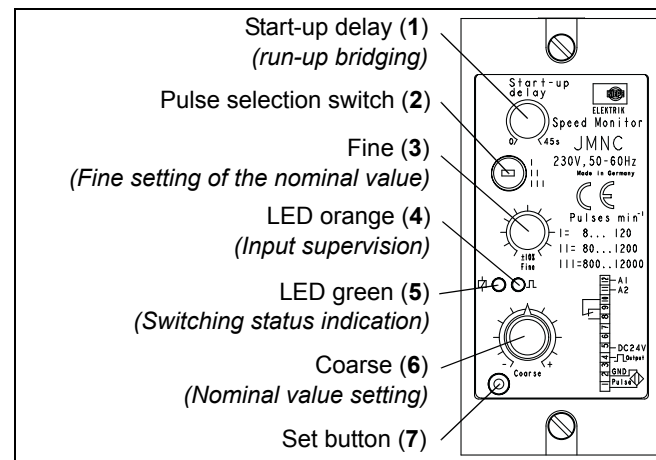

Fig. 3-1: Operating elements of the monitoring device
The electronic rotational speed monitoring device JMNC is equipped into a solid plastic housing (8), which can be mounted onto an operating panel by means of screws. All indicating and operating elements are assigned to the front side of the device (s. fig. 3-1).